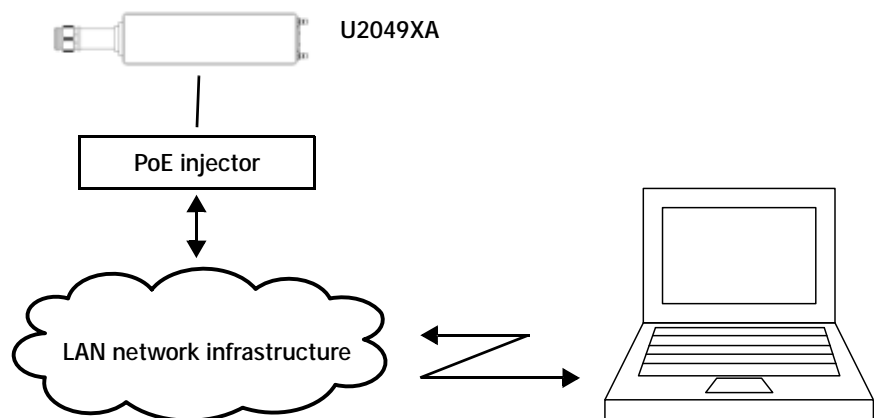

Figure 1-6 Connect the U2049XA via Dynamic IP
- 1 Set up the connection as shown in **Figure 1-6**.